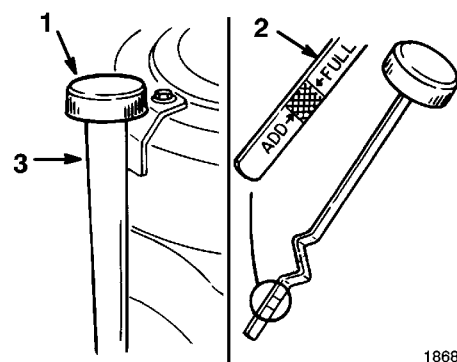

Figure 33
3. Clean around the oil dipstick (Fig. 33) so dirt cannot fall into the filler hole and damage the engine.
4. Unscrew the oil dipstick and wipe the metal end clean (Fig. 33).
5. Screw the oil dipstick fully onto the filler tube (Fig. 33). Unscrew the dipstick again and look at the metal end. If oil level is low, slowly pour only enough oil into the filler tube to raise the level to the "FULL" mark.
7. Slowly pour approximately 80% of the specified amount of oil into the filler tube (Fig. 33). Now check the oil level; refer to Checking Oil Level, page 31, steps 4-5.
5. Slowly pour approximately 80% of the specified amount of oil into the filler tube (Fig. 33). Now check the oil level; refer to Checking Oil Level, page 31, steps 4 and 5.